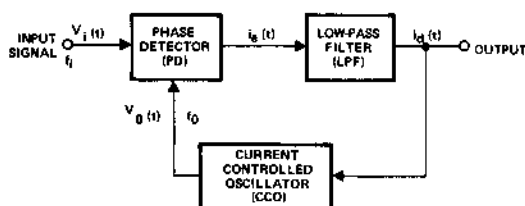

Figure 1
The function of a phase locked loop system is to detect and track small differences in phase and frequency existing between an incoming signal and a secondary reference signal. As shown in Figure 1, the PLL is basically an electronic servo loop consisting of a phase detector (PD), a low pass filter (LPF), and a controlled oscillator whose frequency is a linear function of either a dc voltage or current. In the following discussion, current control will be assumed to produce a current controlled oscillator (CCO).